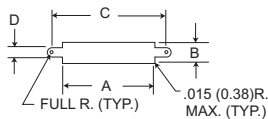
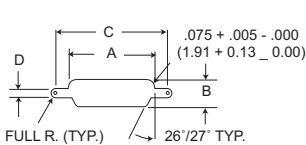

Figure 1
Figure 3
(see Figures 1 and 3)
2. Front mounting is preferred. However, when rear mounting is necessary, use figure 3 for dimensions.
5. Front mounting (Figure 1) and rear mounting (Figure 3) accommodate #2-56 screws.